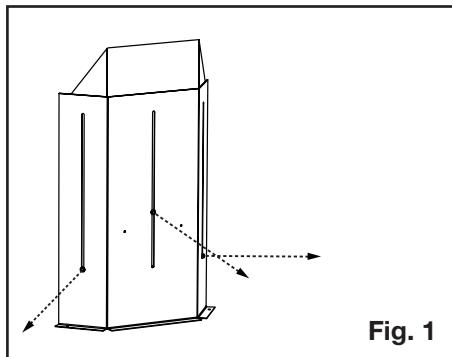

Fig. 1
1. Loosen the fasteners on the vent shield assembly. DO NOT DISCARD FASTENERS (**Figure 1**).